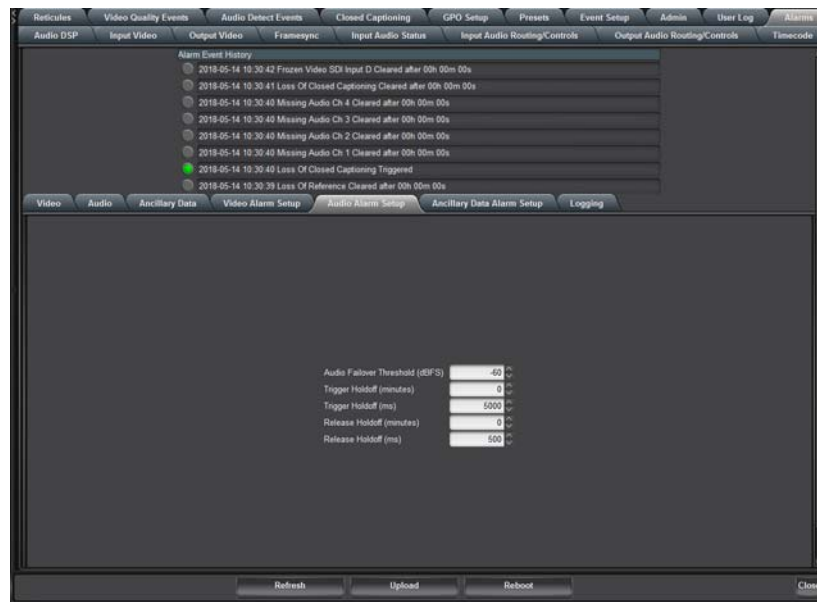

Figure 26.2 Example of the Alarms > Audio Alarm Setup Tab
- ★ Factory default hold-off and threshold settings shown in **Figure 26.2** are recommended for at least initial settings. If hold-off periods are too brief (or threshold set too high), nuisance alarms may be generated during transitions to and from programs and interstitials, as well as during certain content.